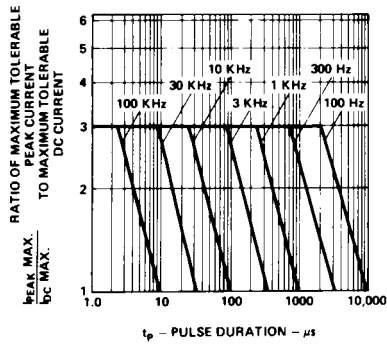

Figure 5. Maximum Tolerable Peak Current vs. Pulse Duration. ( $I_{DC\ MAX}$  as per MAX Ratings).
- See Figure 5 (Red/Orange), 10 (Yellow), or 15 (Green) to establish pulsed operating conditions.